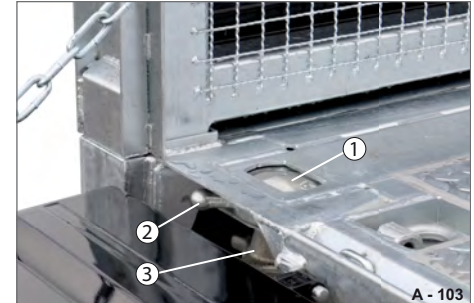

Fig. 161 Drive position without container
- ▶ Recess all the container locking points when they are not in use: Retract the pivot pin (Fig. 161/1) and the guide bushes fully. Secure the locking point with the grooved bush (Fig. 161/2) - turn anticlockwise.
- ▶ Secure the clamping nut (Fig. 161/3) with the safety locking mechanism. The safety locking mechanism blocks the clamping nut and prevents it from unscrewing of its own according during driving.